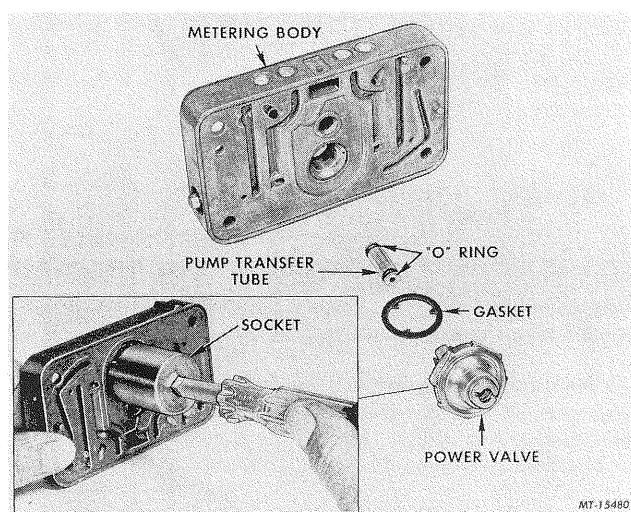

FIG. 28 Primary Metering Body with Acceleration Pump Transfer Tube (Disassembled View)
6. Remove power valve using 1" wrench or power valve socket. Remove power valve gasket and pump transfer tube with "O" rings (if used) from metering body (Figure 28).
2. Install a new gasket on power valve and install with proper wrench or socket. Torque to 100 in.-lbs. (Figure 28).